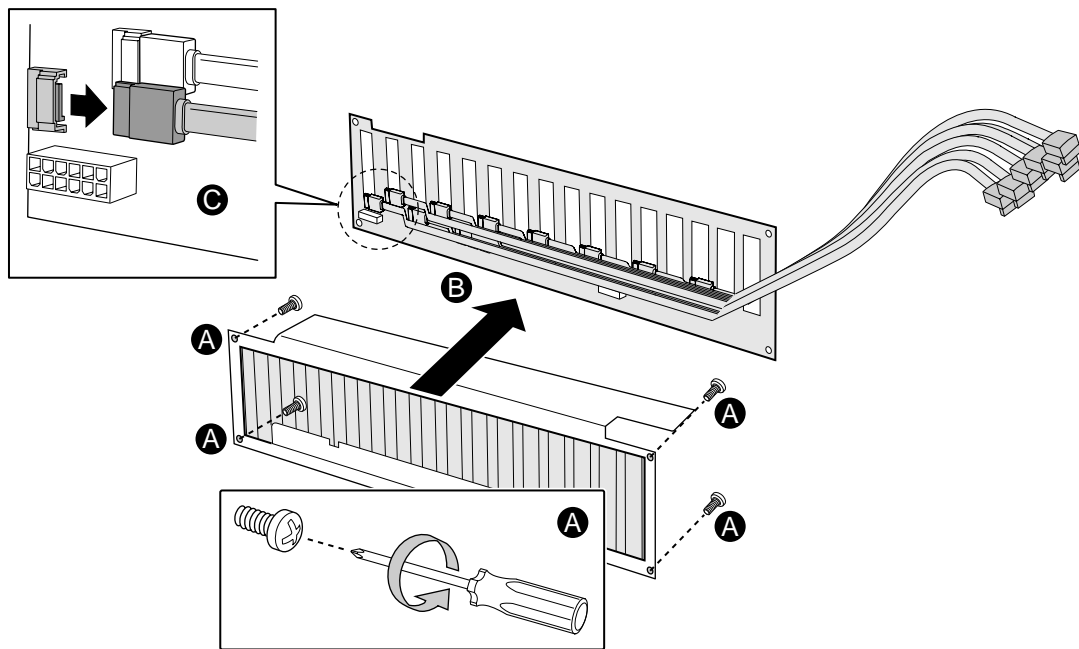

Figure 11. Removing the Backplane Board from the Metal Shroud
- A. Using a Number 1 size Phillips Screwdriver, remove the two Phillips screws on each side of the backplane board that hold the backplane board in its metal shroud. See Figure 11. Set these screws aside. They will be re-installed later.
- B. Carefully remove the backplane board from the metal shroud. Pay attention to sharp edges on the backplane board and metal shroud. See Figure 11.